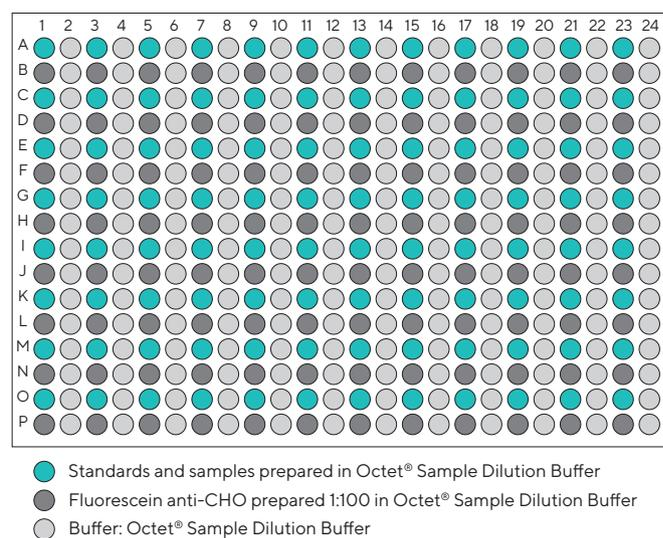

Figure 2: Sample Plate layout for 96 biosensor mode in 384-well plate for Octet® RH96 system.
3. Prepare the Sample Plate (example plate layout shown in Figure 2):
4. Define the Sample Plate layout to correspond to the layout in Figure 2.